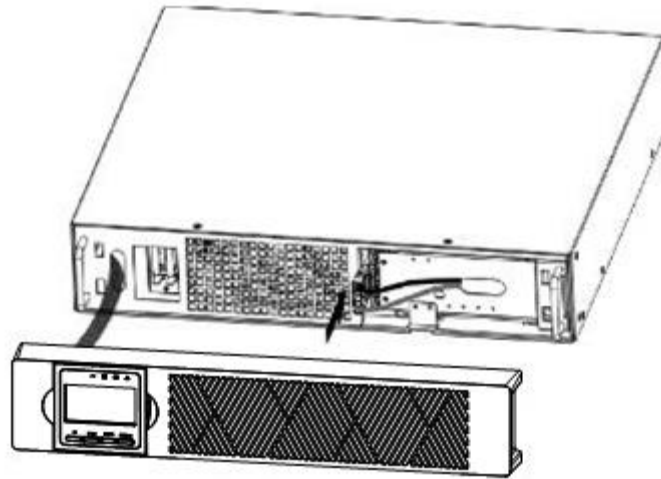

Figure6 - Connecting the UPS Internal Batteries
b) Connect the internal battery connector (see Figure6)